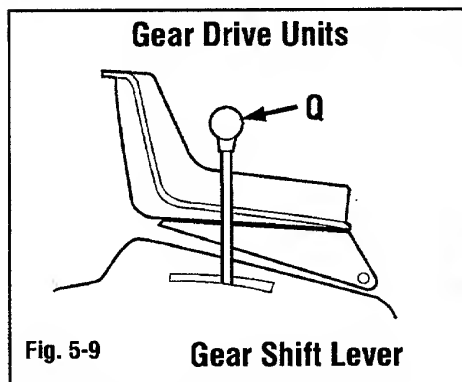

Fig. 5-9
Depress clutch/brake pedal and move gear shift lever (Q, Fig. 5-9) into desired position. Select from five forward speeds, neutral and reverse. Avoid fast travel speeds when using attachments.
**Gear Drive Units:** Place gear shift lever (Q, Fig. 5-9) into neutral position before pushing unit.